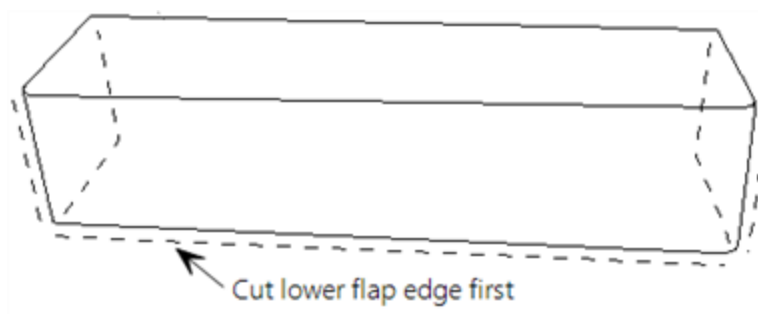

FIGURE 3-1. Cut flap packing tape
1. Open shipping carton(s). Solar panel and radio frequency (RF) items (if any) will be packed in a separate box.
3. Position the box as shown in FIGURE 3-1 (p. 3).
4. Cut the tape along the edge of the lower flap first (FIGURE 3-1 (p. 3)).